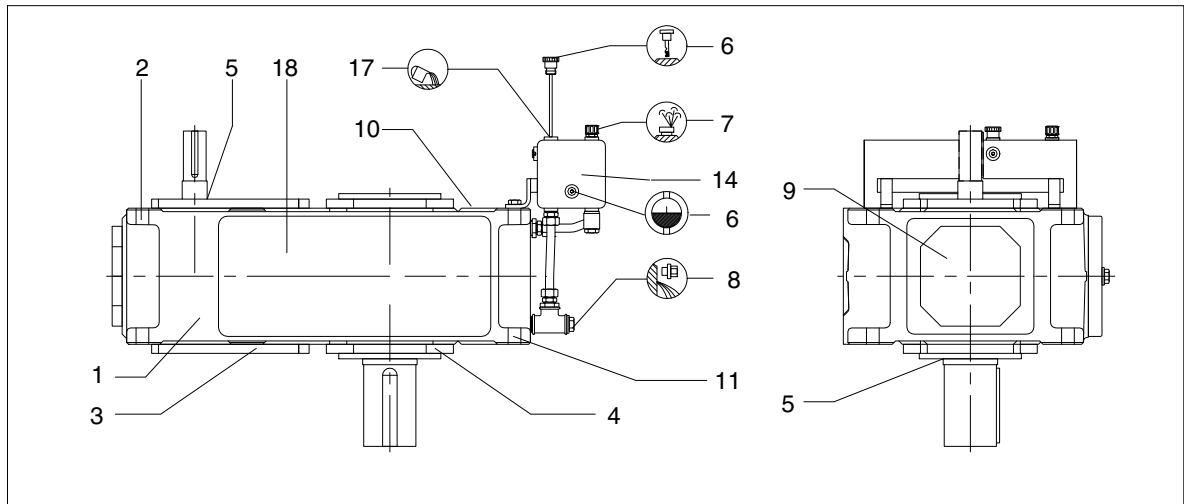
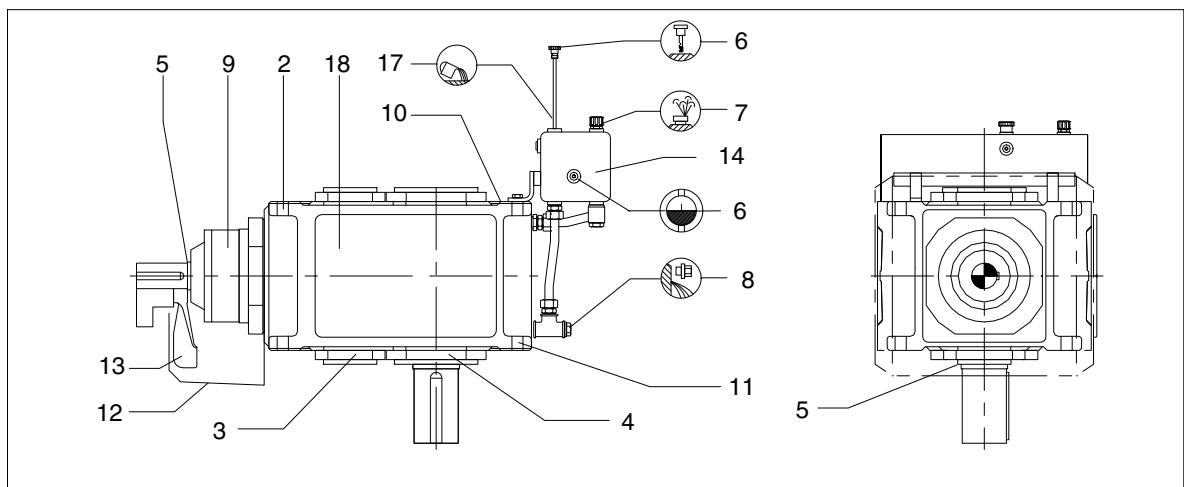

Fig. 9: Gear-unit features on gear units type H..V with oil-equalising tank
Fig. 11: Gear-unit features on gear units type B..V with oil-equalising tank
- Unscrew and remove oil-filler plug (including air filter or wet-air filter on the gear unit or the oil dipstick on the oil-equalising tank) (see figs. 9 to 12, part 17).
- Version with oil-equalising tank (see figure 9 and figure 11)
When installed vertically, all teeth and bearings are submerged in oil. The space required for expansion of the oil is provided by an oil-equalising tank bolted to the unit (see figure 9 and figure 11 in item 5.1.1).